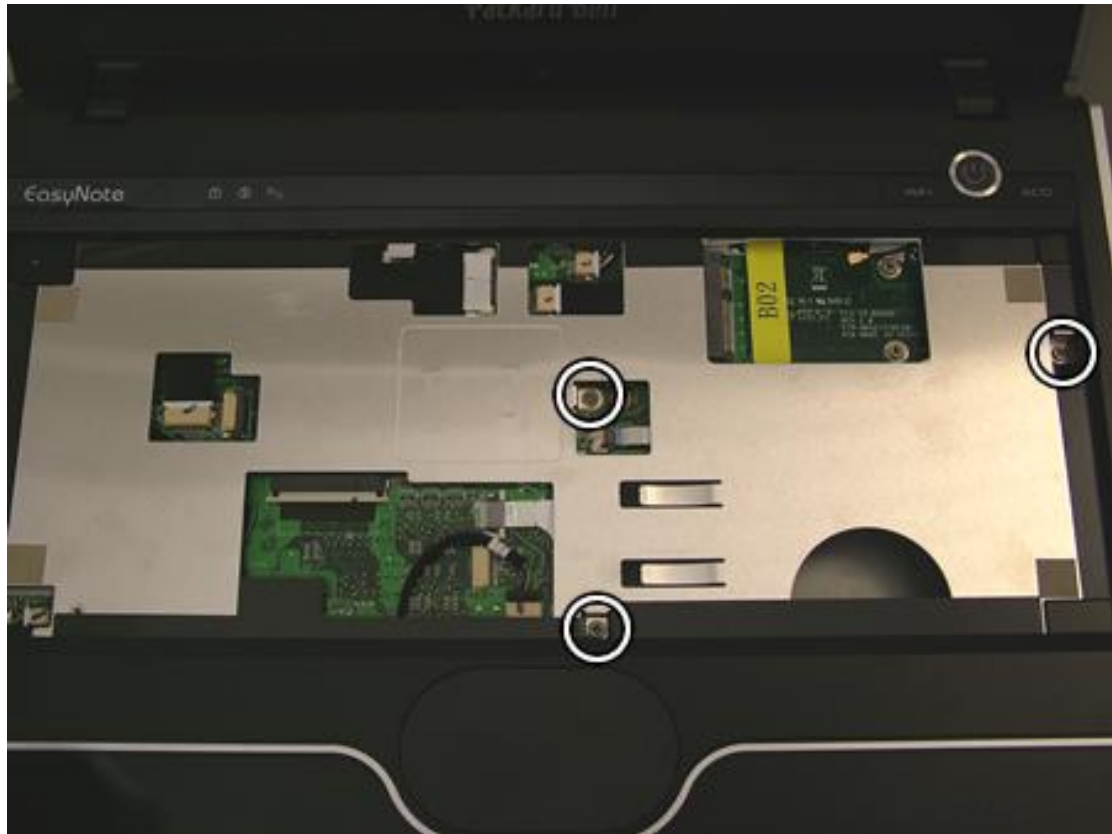

Fig. 16 *The heat shield and location of the cables.*
3. Remove three screws in the heat shield (see Fig. 16).